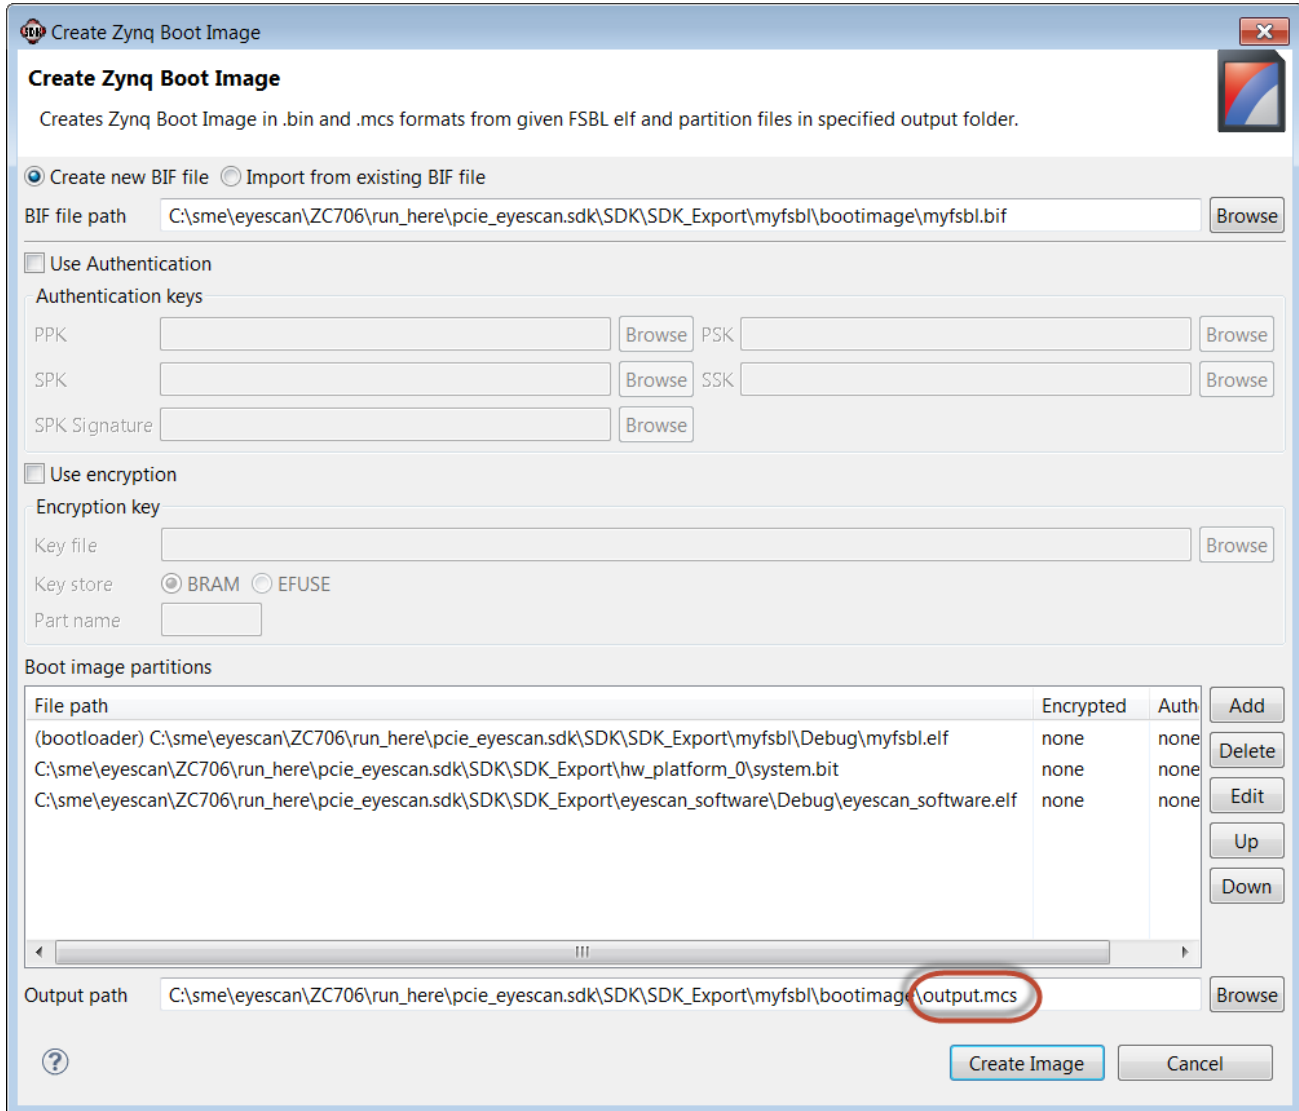

Figure 26: Specify Boot Image File Name
19. Change the output extension to `.mcs` as shown in Figure 26 and select **Create Image**.